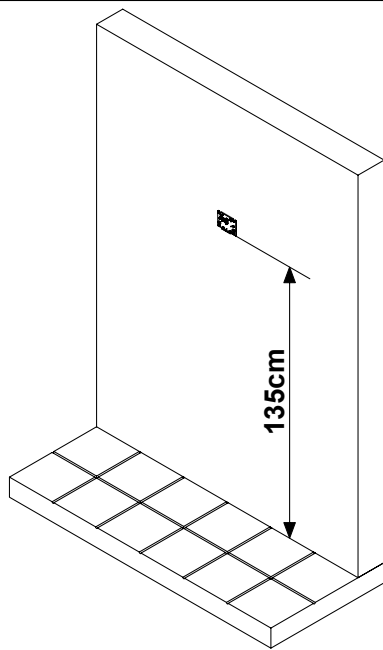

Fig. 1
1. Cables must be fed through the opening **E** (**Fig. 2**) of the mounting plate **C**, which should be fitted approximately 135cm from finished floor level as shown in **Fig. 1**;